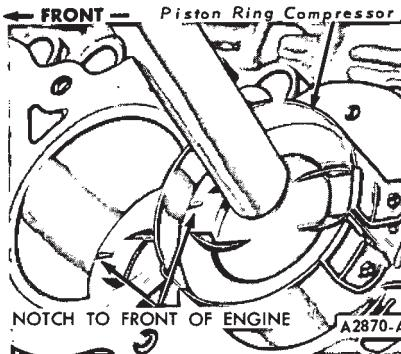

FIG. 47—Installing Piston
4. Install a piston ring compressor on the piston and push the piston in with a hammer handle until it is slightly below the top of the cylinder (Fig. 47). Be sure to guide the connecting rods to avoid damaging the crankshaft journals. **Install the piston with the indentation notch in the piston head toward the front of the engine.**